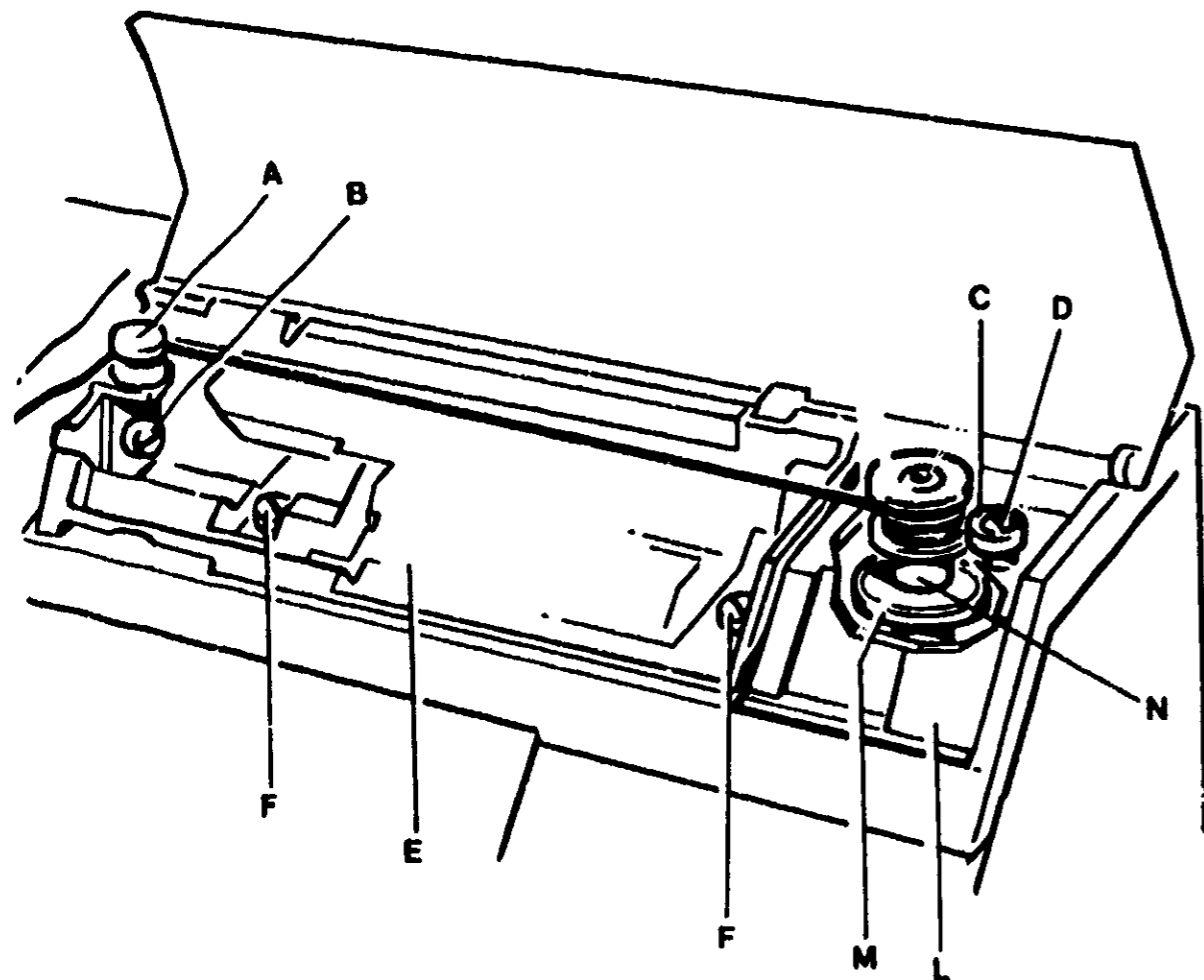

FIGURE 52
- If bobbin does not wind evenly, loosen screw (B) slightly and adjust tension unit (A) upward or downward as necessary (Figure 52). Tighten screw (B) securely
- If bobbin fill is incorrect, loosen screw (D) slightly and adjust position of eccentric (C) with slight partial rotation. Tighten screw (D) securely
- If winder does not operate smoothly, check the condition of rubber friction ring (F) (Figure 52). Remove screw (D) and stopping knob (C) (Figure 52). Lift off bobbin winder cover plate (L). Bobbin winder ring is now accessible. Refer to paragraph 4 below if bobbin winder assembly requires repair
- Switch machine on and let it run for a while to allow the self-adjusting bushing to set into proper position. Operation may be accelerated by repeatedly knocking (lightly) the upper mainshaft with an aluminum or brass bar. To do so remove accessory tray (E) by loosening screws (F) (Figure 52). Upper shaft may then be reached through a shroud hole.